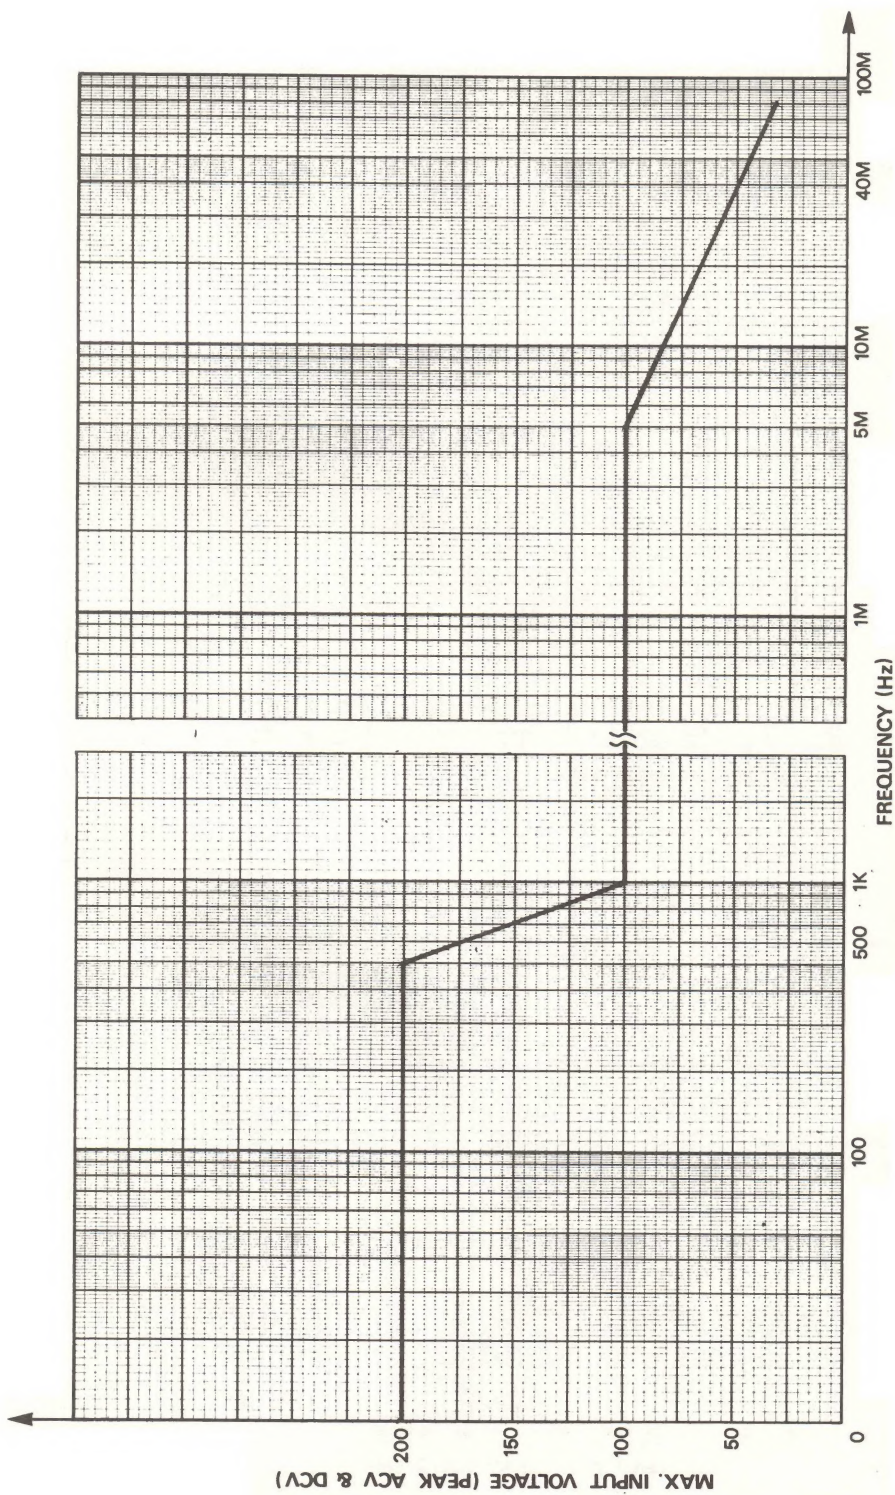

Fig. 1. Maximum input protection derating curve.
Maximum Input	200V (DC+peak AC), DC to 500 Hz, decreasing linearly to 100V (DC+peak AC) at 1 KHz. 100V (DC+peak AC), 1 KHz to 5 MHz, decreasing linearly to 30V (DC+peak AC) at 80 MHz, See Fig. 1.
8. **X1/X10.** This switch controls the built-in attenuator in the counter. If the switch is in the out position (X1), the input is applied to the counter circuitry without attenuation. Pressing the switch in (X10), switches an X10 attenuator in series with the input signal. The attenuator limiter prevents the counter logic circuitry from mis-counting when noisy or improperly terminated high-amplitude signals are applied to the counter. Signal voltage greater than 30 volts may damage the first stage (see Fig. 1).